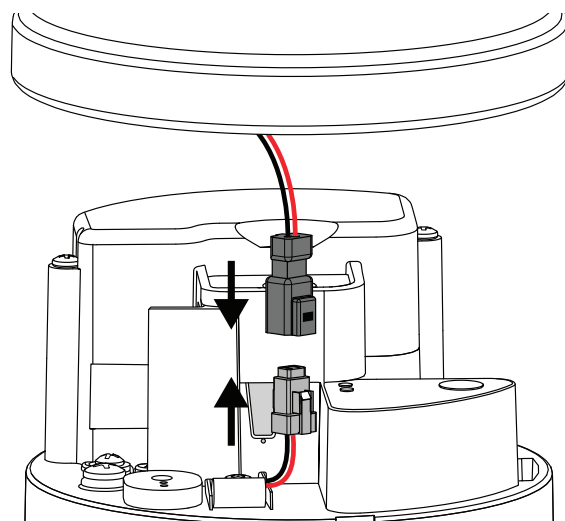

Figure 15 Connect pyranometer cable
1. Reattach the pyranometer connector by mating the two halves of the white connector and seating them firmly together until the tabs lock (Figure 15).
3. Twist counter-clockwise to unlock from the ATMOS 41Gen 2 base until the lock/unlock graphic located on the side of the rain gauge funnel is lined up with the notch on the interface plate (Figure 15).